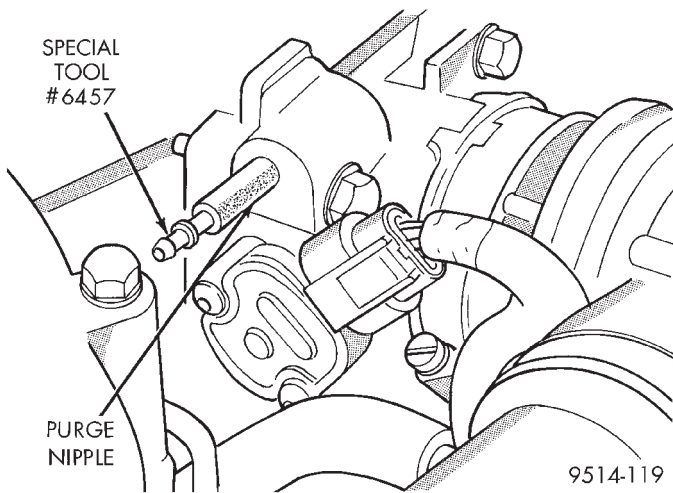

Fig. 62 Orifice 6457 Attached to Purge Nipple—2.5L Engine
(4) Use a piece of hose to attach Air Metering Orifice 6457 (0.125 in. orifice) to the purge nipple on the throttle body (Fig. 62).